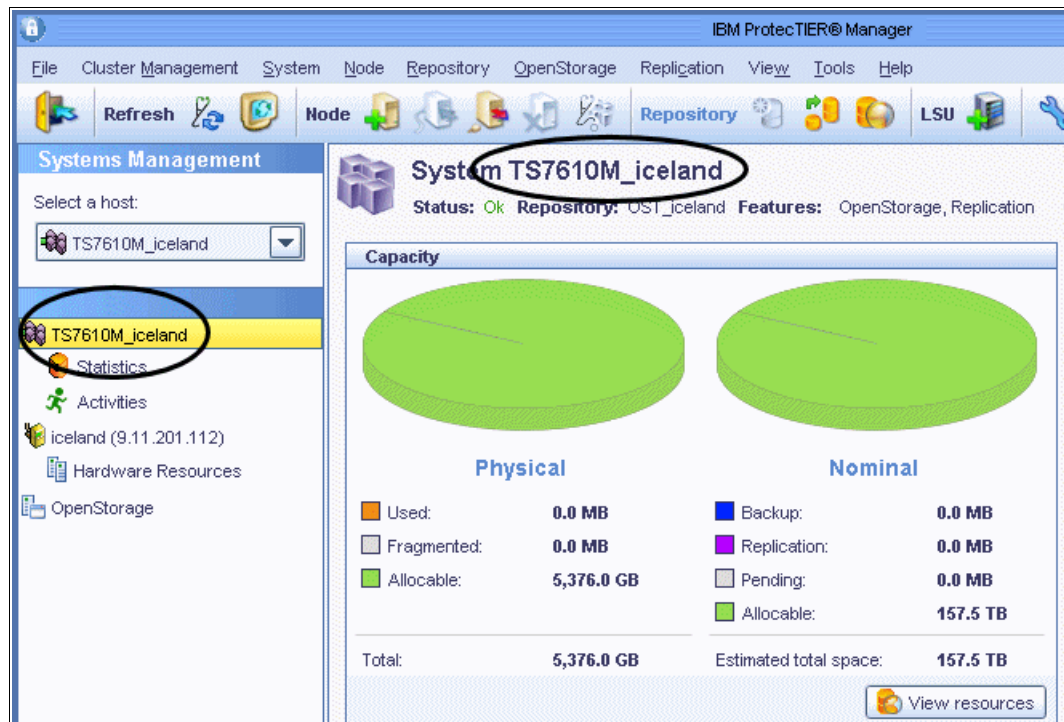

Figure 5-33 New system name
- The new system name will be immediately be reflected in the navigation pane (Figure 5-33). In this example, this system is a TS7610 Medium model with the host name of iceland, so we use the name TS7610M\_iceland to identify it.